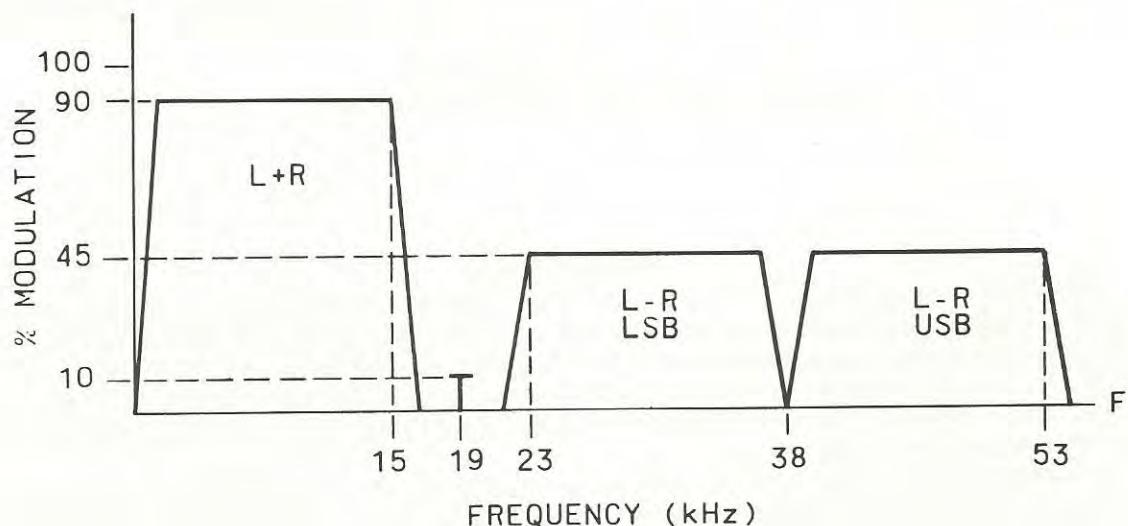

FIGURE 1
**PRINCIPLES OF STEREO FM:** FM stereophonic broadcasting is a frequency domain multiplexed (FDM) system. A left-plus-right (L+R) signal is transmitted in the band 50 Hz-15 kHz. This is the monaural baseband signal. A double sideband suppressed carrier (DSB) signal modulated with left-minus-right information is transmitted at 38 kHz. To properly demodulate the DSB 38 kHz signal, a 19 kHz pilot tone is transmitted with a phase such that when it is frequency-doubled, L-R information can be synchronously detected. The composite stereo signal is shown in Fig. 1.